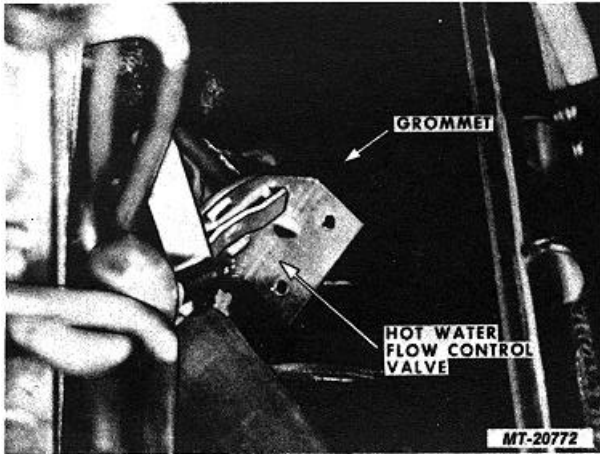

Fig. 54 Removing Hot Water Flow Control Valve from Unit Housing
11. Rotate control valve assembly as necessary to withdraw lower neck of valve through grommet in bottom of heater/evaporator unit housing. Remove valve (Fig. 54).